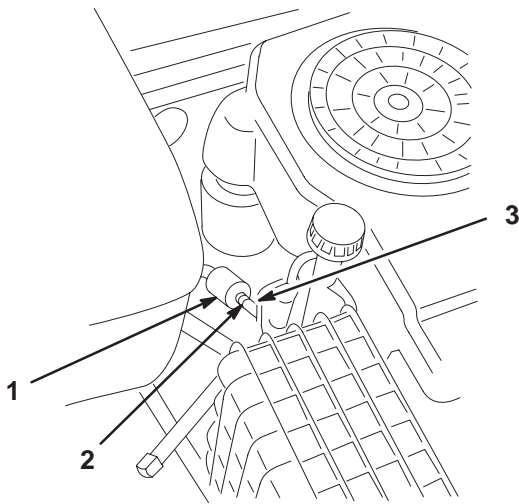

Figure 30
3. Loosen the hose clamp at the fuel filter and slide it up the fuel line away from the fuel filter (Fig. 30).
4. Pull the fuel line off of the fuel filter (Fig. 30).
6. Install the fuel line onto the fuel filter. Slide the hose clamp close to the fuel filter to secure the fuel line (Fig. 30).